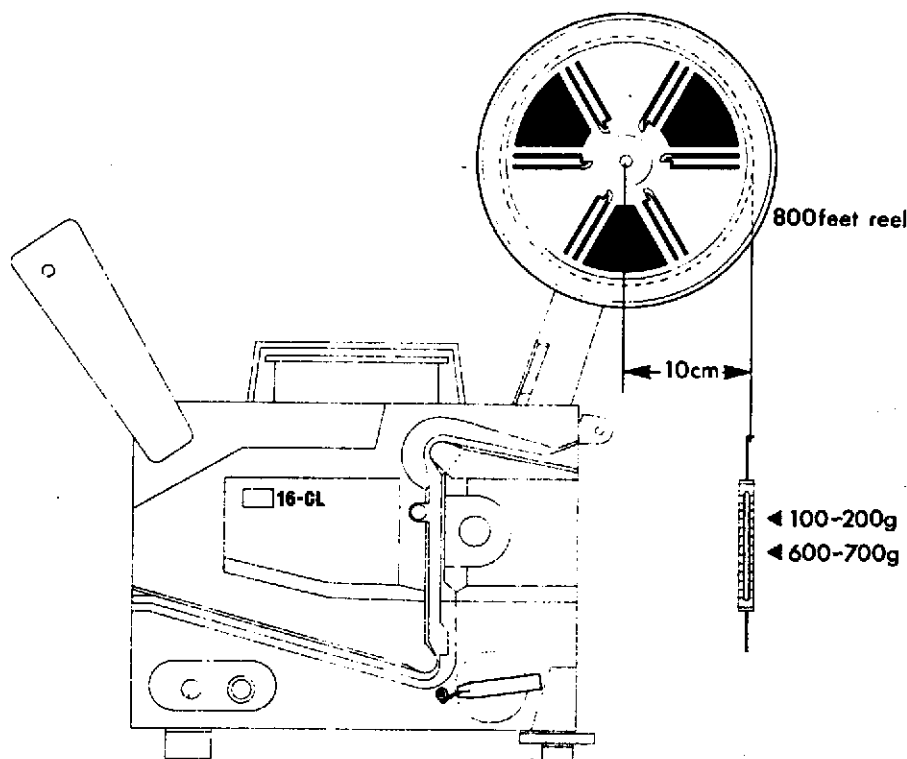

Fig. 20
- (1) As shown in Fig. 20, wind film on attached Reel until the diameter of wound film comes to 20cm.
- (2) Set Main Knob at "⊙" position and measure the tension as illustrated in Fig. 20.
- * Change the pressure of Fig. 21-3 by turning Fig. 21-2 in order to adjust the tension to 600-700gr. (Refer to Fig. 20)